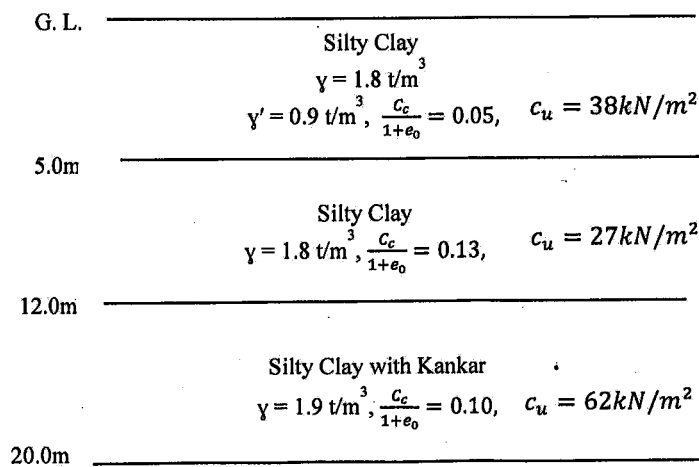

Fig. 2
2. An isolated column in a building frame carries a superimposed load of 450kN. The subsoil condition is shown in the figure (Fig. 2) below. Design a suitable isolated footing for the column. [Assume water table at 1m below ground surface]